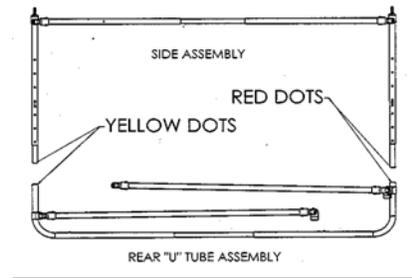

Fig 9
- 3) Join the rear "U" tube assembly to the yellow and red dotted tubes of the side assembly, telescoping the green-to-green and red-to-red tubes. This is now the complete rear tube assembly. (See Figs 9 and 10)